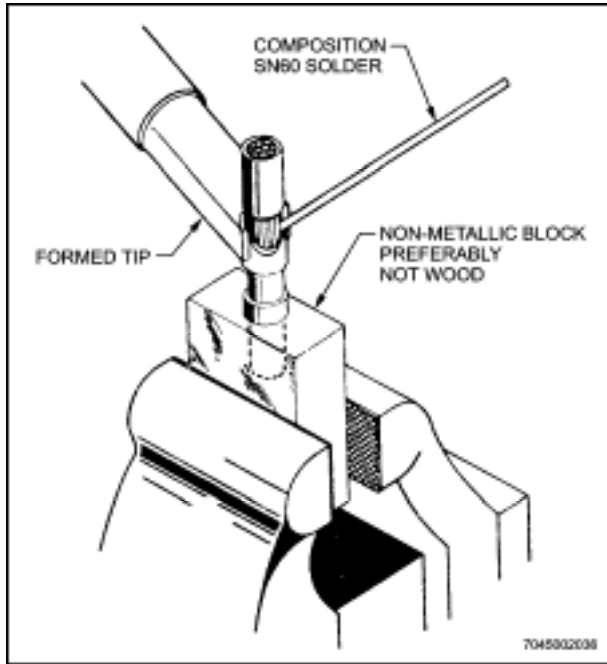

Figure 10-9 Soldering Large Size Contacts
- a. Large contacts which have been removed from inserts are held in a non-metallic block and soldered by first heating the solder cup with the specially shaped tip as shown in Figure 10-9. Then, while heat is still applied, the pre-tinned wire is slowly inserted into the solder cup until it bottoms. Extra solder is added to the solder cup if necessary. Hold the hot iron to the solder cup until the solder has flowed into a smooth fillet, and then allow to cool.